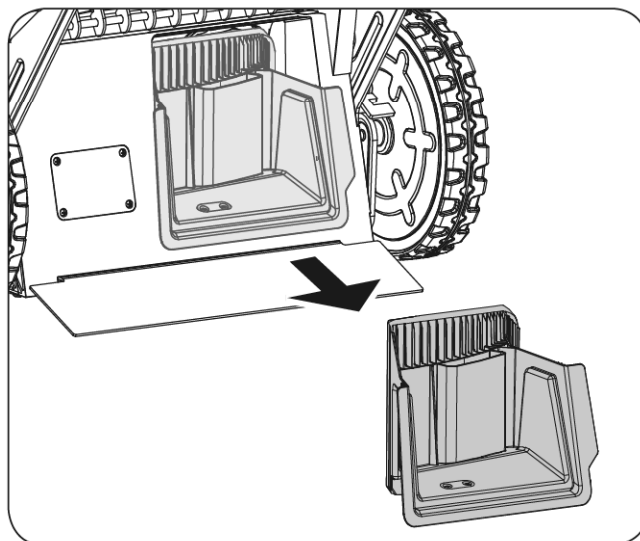

Figure 5
2. Lift up and pull back the mulch plug to remove it. (See **Figure 5**)